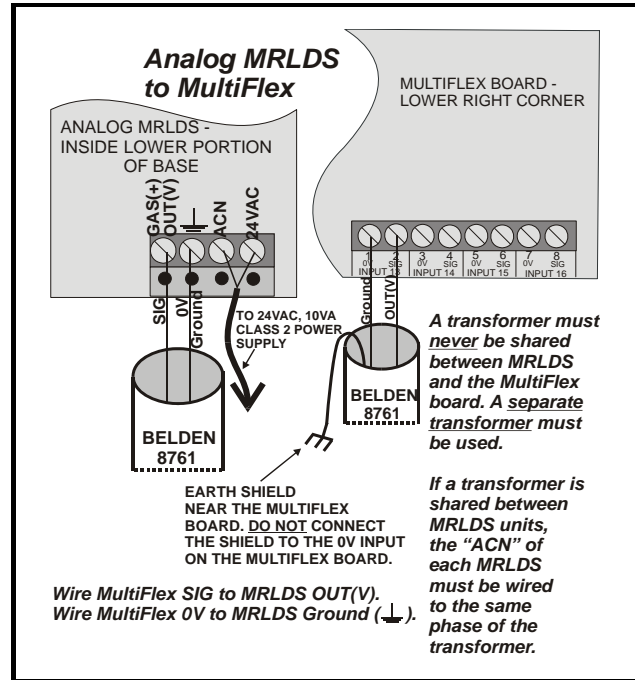

Figure 4-2 - Analog MRLDS Wiring
3. Connect the wires to the terminal connector located in the base, as indicated in *Figure 5-2* and *Figure 4-2*.